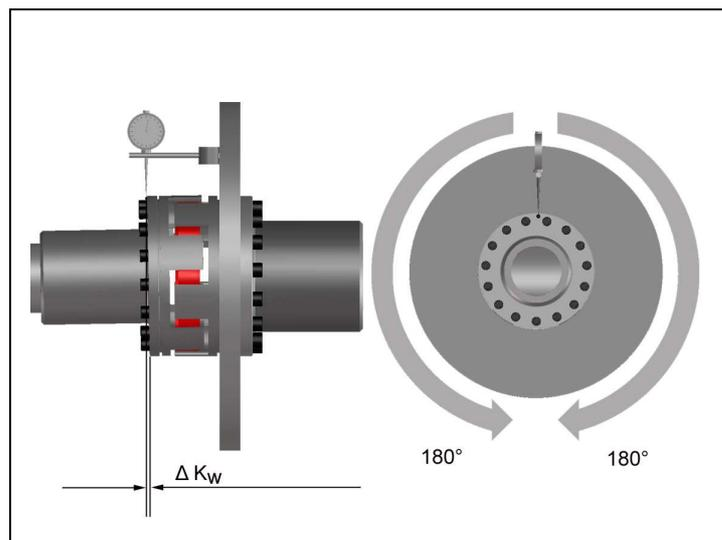

Fig. 9
- Measure one complete revolution (360°) on the face of the outer diameter. Determine the largest deviation K_{w1} and the smallest deviation K_{w2} (Fig 9). Calculate the angular misalignment: